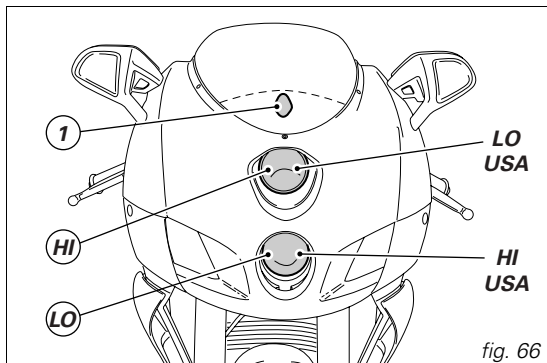

fig. 66
Before replacing a burnt-out bulb, check that the new one complies with voltage and wattage as specified in the "Electrical System" paragraph on page 88. Always check that the new bulb works before refitting removed parts. Figure 66 shows the position of the low beam (LO), high beam (HI) and parking light (1) bulbs.